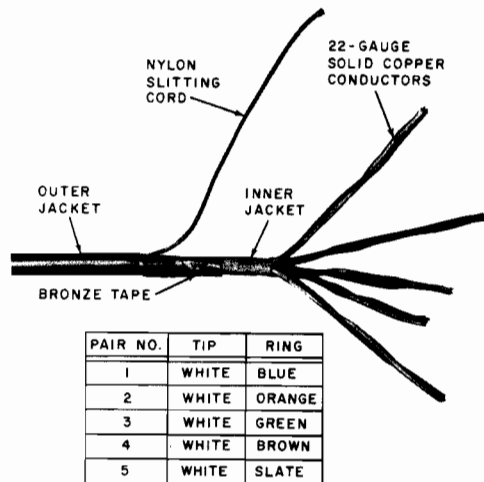

Fig. 3—F-59377 Filled Service Wire
3.03 The F-59377 filled service wire (Fig. 3) consists of five pairs of 22-gauge solid copper conductors individually insulated with distinctively colored polyethylene. The insulation on the conductors is colored for purpose of identification.